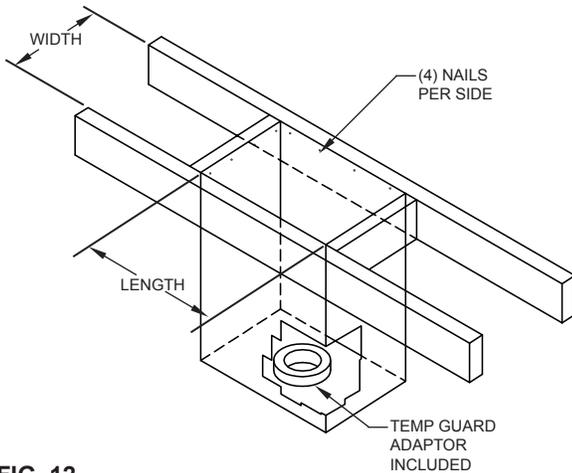

FIG. 12
- Using framing lumber equal to ceiling joist size, frame opening as shown in FIG. 12. Framing that is perpendicular to the roof joists must also be vertically mounted so that support can be installed vertically.